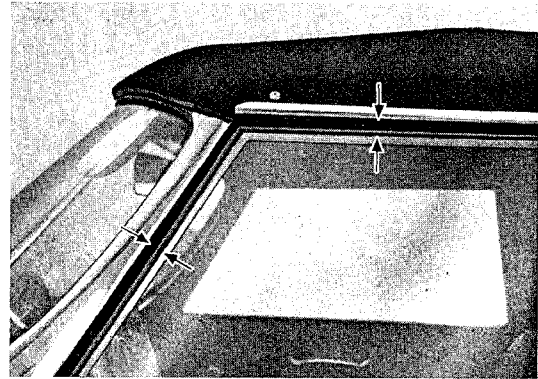

Fig. 84
8. Check the angle of the windshield post with respect to the door window and the top as shown in Fig. 84. The correct space is approx. 15 cm ($\frac{5}{8}$ in.) which can be adjusted by placing shims under the windshield post as required.